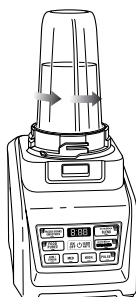

Fig. 5
- 9 Once you have reached your desired consistency, stop the appliance by pressing the power button and wait for the Pro Extractor Blades Assembly to stop turning. Turn the Nutri Ninja® Cup anticlockwise and pull straight up to remove. **(Fig. 5, Fig. 6)**